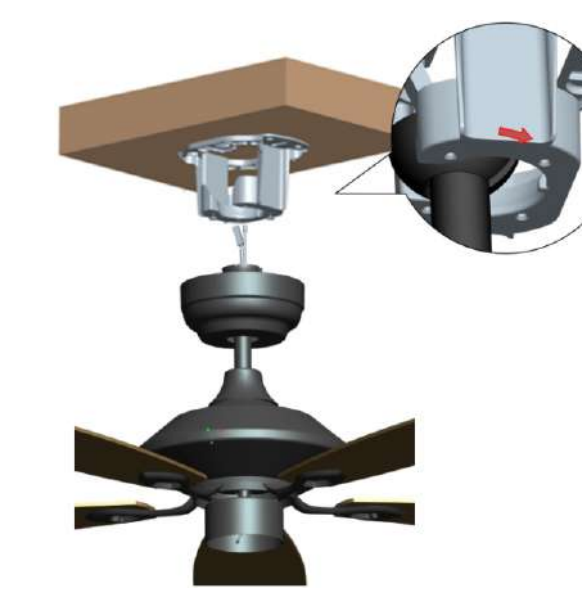

Fig 6.1
6.1 Hang the installed ceiling fan on the hanger that has been fastened to the ceiling along the direction of the hanger notch. Rotate the hanger to make the notch on the drop ball coincide with the convex point on the hanger, as shown in Fig 6.1.